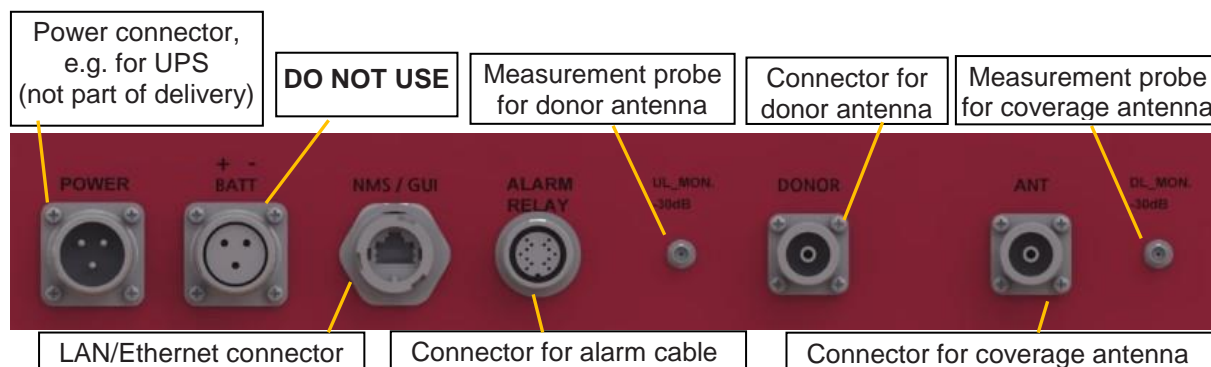

figure 4-1 Connectors of PSR 700/800 MHz
- To safeguard correct operation, a device that guarantees uninterruptible power supply (e.g. an appropriate UPS) has to be connected at the POWER connector (see figure 4-1 Connectors of PSR 700/800 MHz).